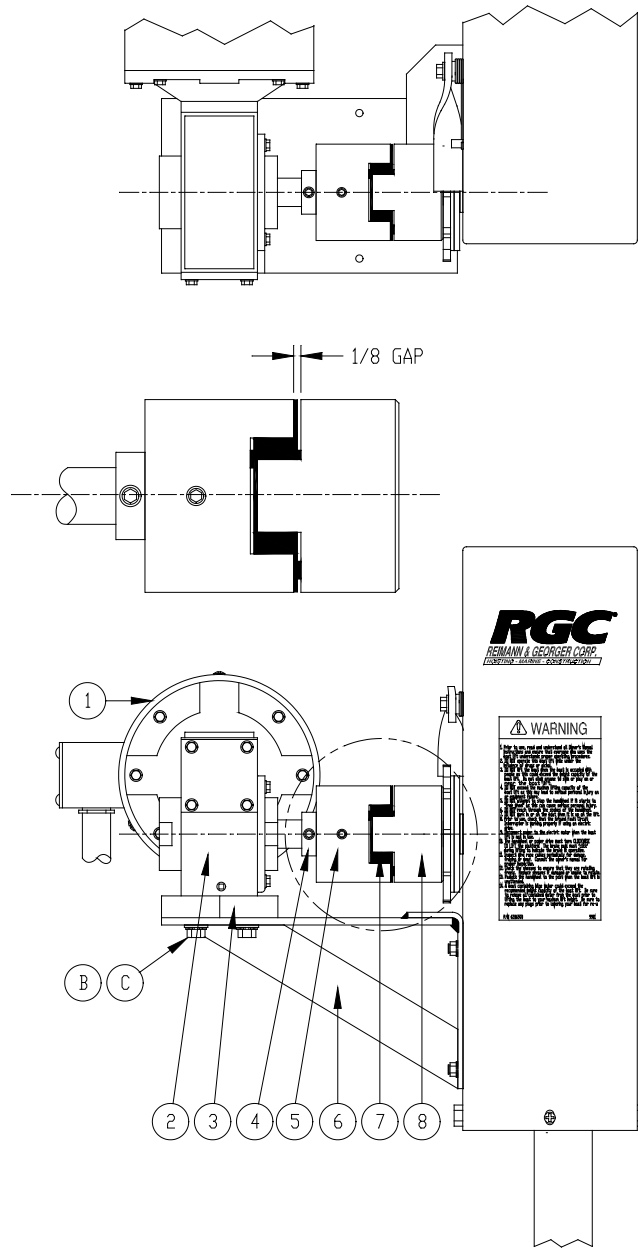

Figure 2-3
1. Refer to Figure 2-3, the center line of the direct drive coupler must align with the center line of the winch input shaft coupler. Align if necessary, by loosening the gearbox mounting bolts and positioning the gearbox as required. Re-tighten bolts.